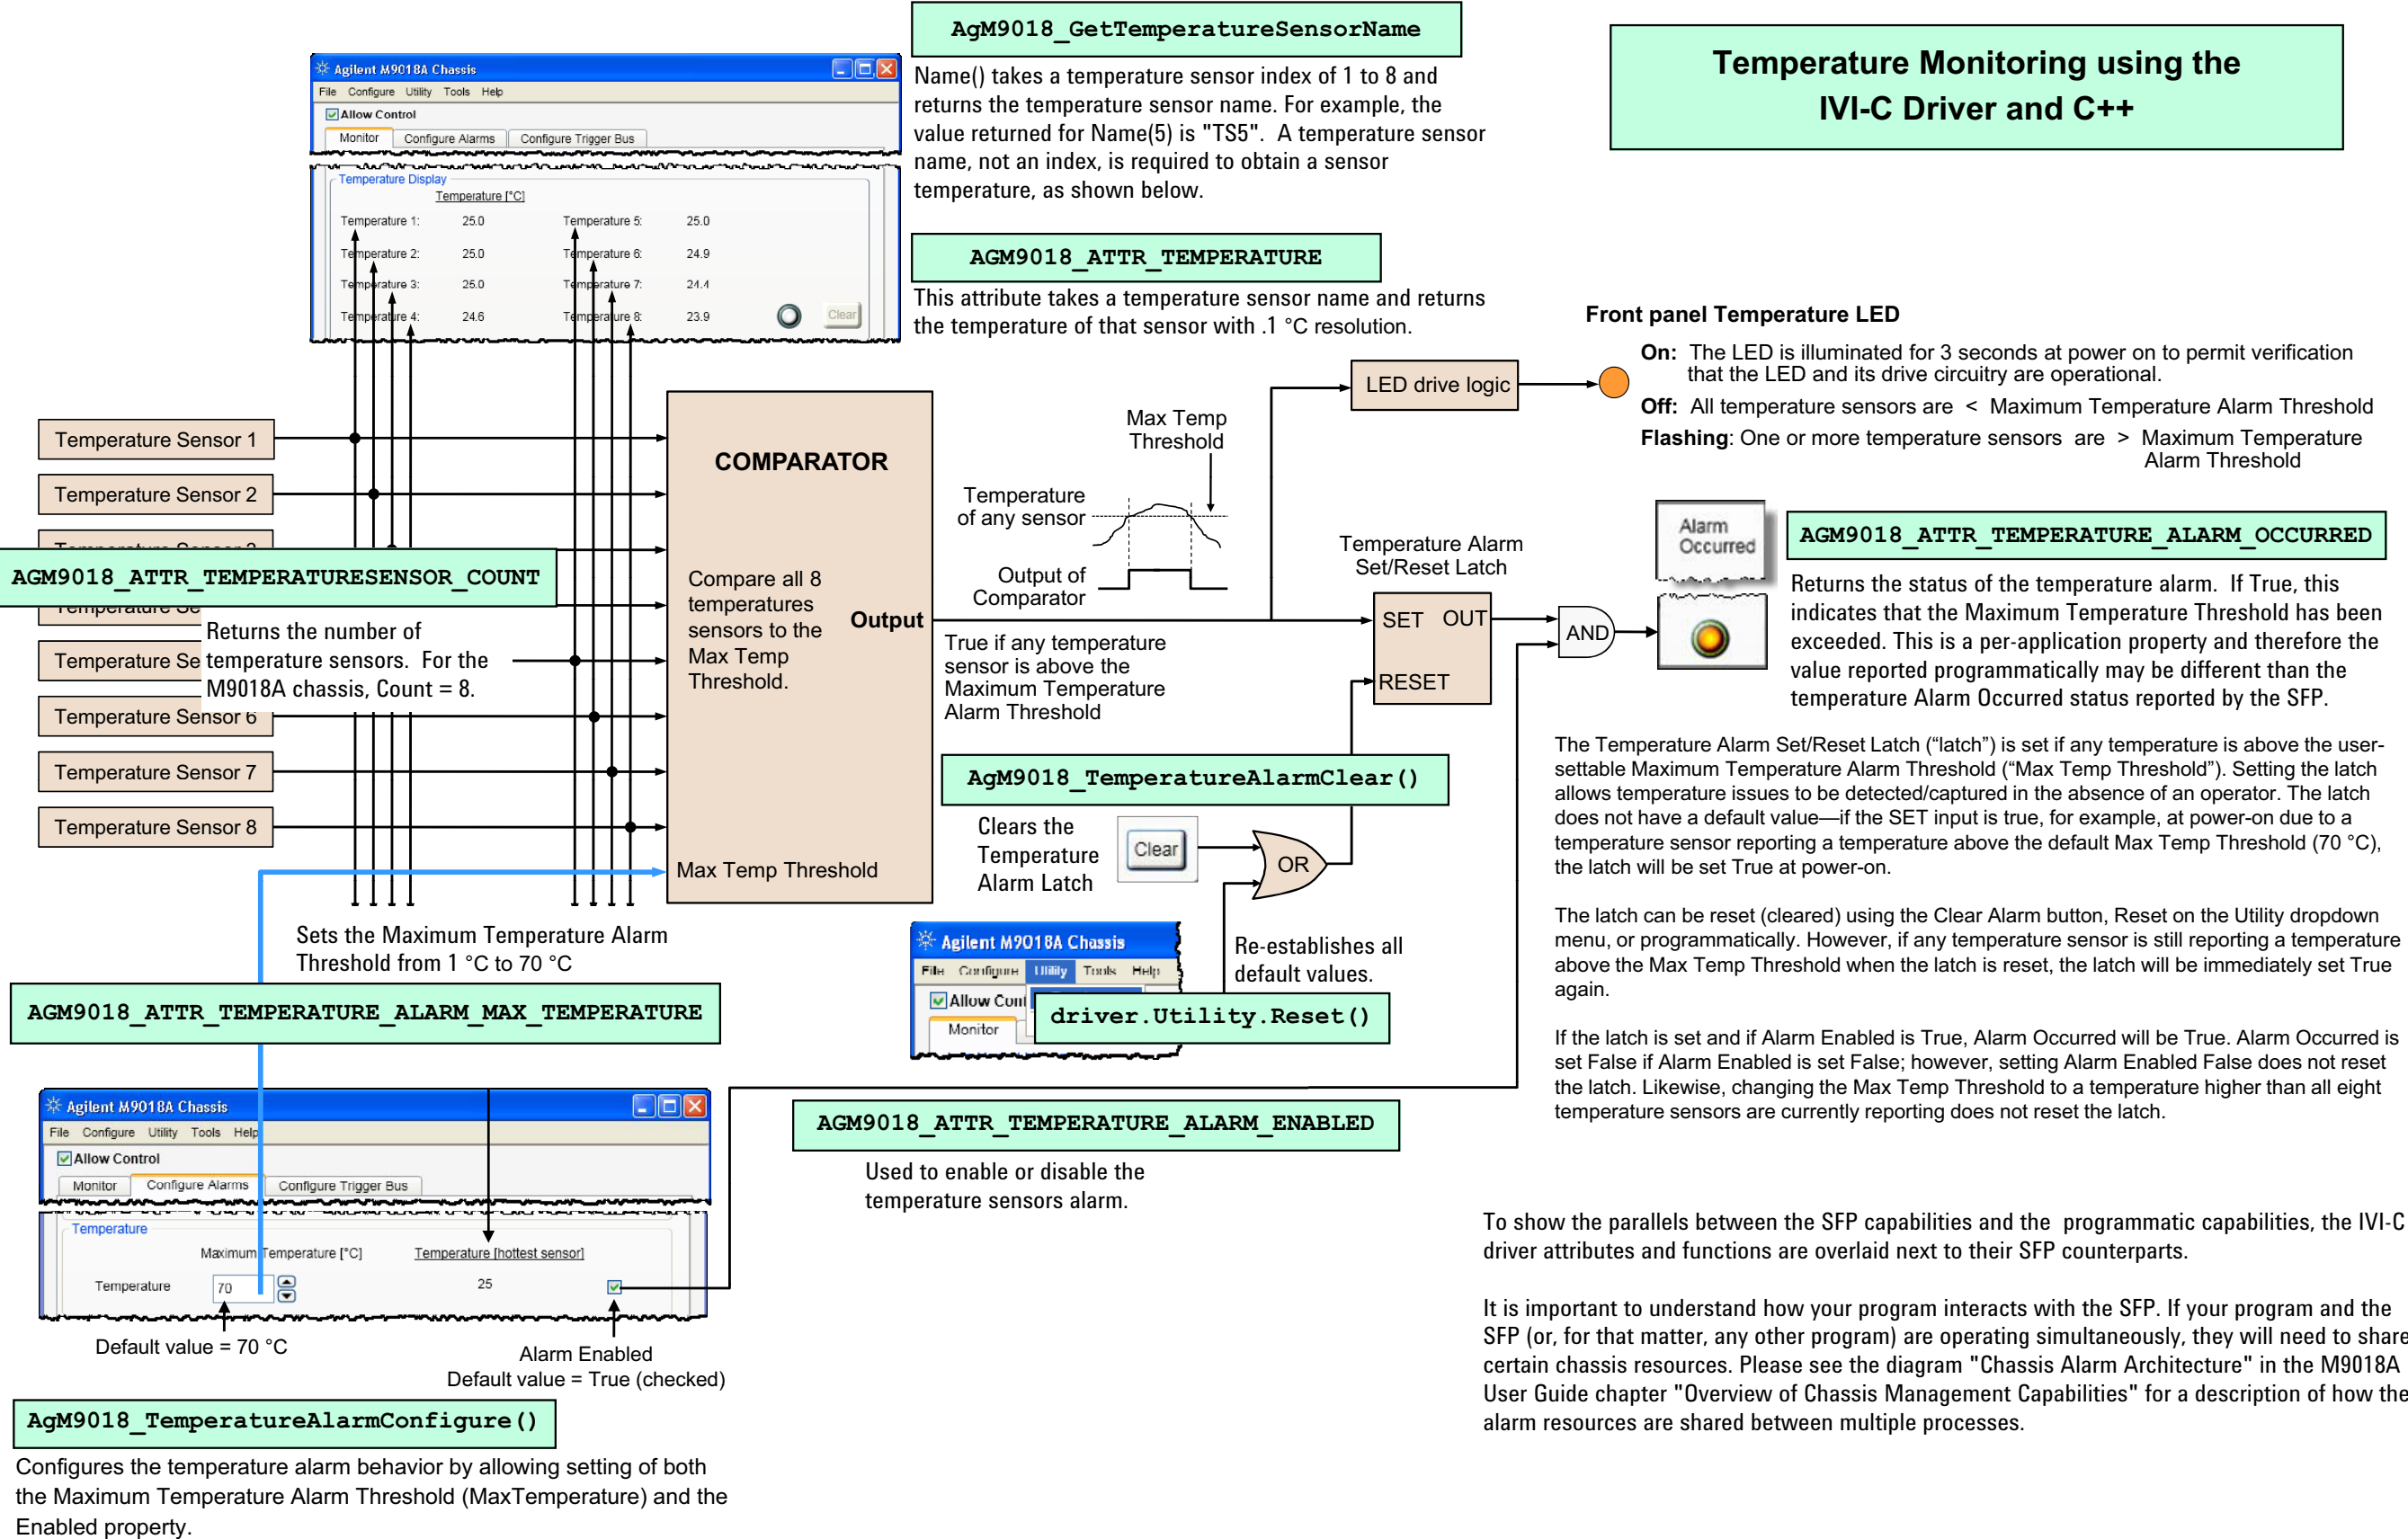

Figure 23
- IVI-C driver and C++ – Figure 23 on page 47